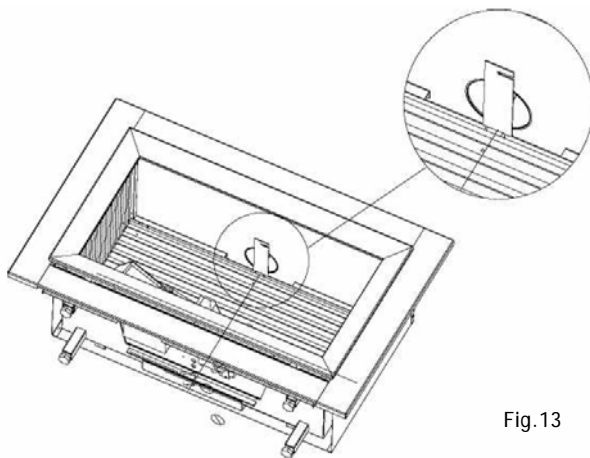

Fig. 13
- 5) Like in the previous models, place the right flue restrictor in the combustion chamber (see fig. 13). To determine the right flue restrictor, see paragraph 4.2 and 4.3.
- 4) Like in the previous models, place the right flue restrictor in the combustion chamber (see fig. 13). To determine the right flue restrictor, see paragraph 4.2 and 4.3.